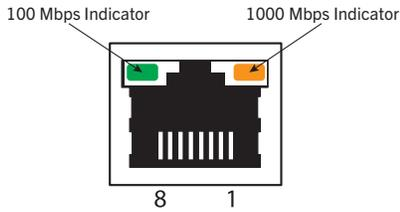
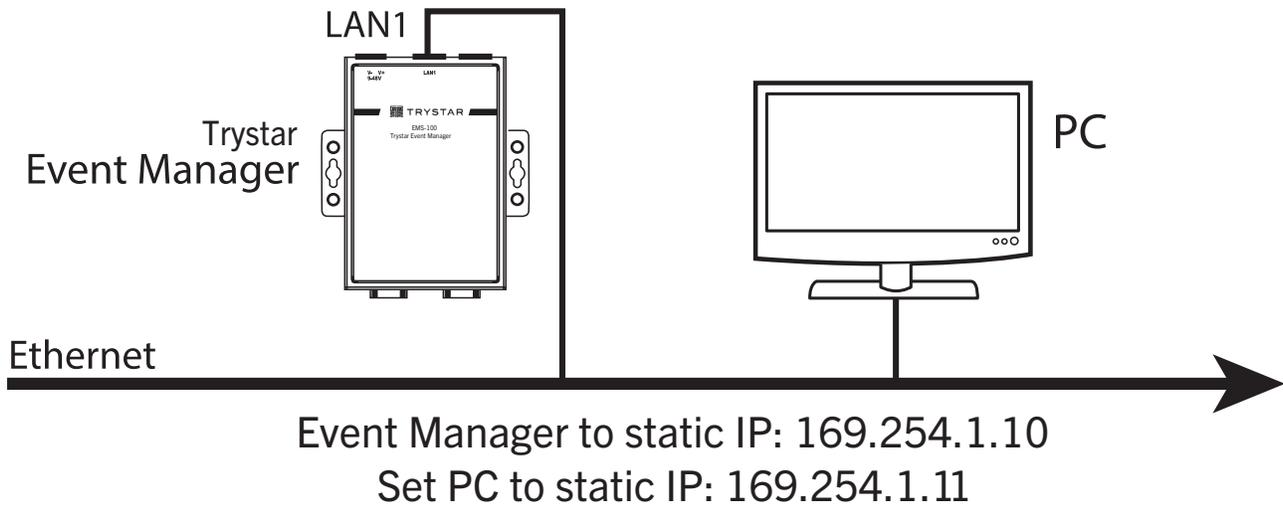

Figure 5. Ethernet Port
Figure 6. Initial Setup Connection
The LED indicator in the upper left corner glows a solid green when the Event Manager establishes a connection with a 100 Mbps Ethernet network (figure 5). The LED will flash on/off when packets are being transmitted or received. The LED indicator in the upper right corner glows a solid orange when the computer establishes a connection with a 1000 Mbps Ethernet network (Figure 6). The LED will flash on/off when packets are being transmitted.
2. Set PC to use static IP address of: 169.254.1.11. (Figure 6)